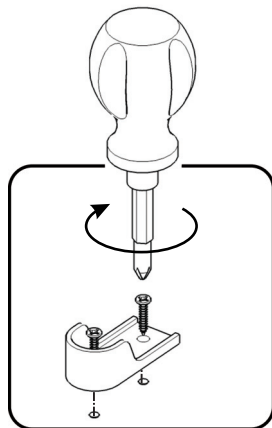

Figure 1
Attach Rod Supports to Side Panels (B), (C), (H) and (I) with Wood Screws for Rod Support into pre-drilled holes. (See Figure 1)